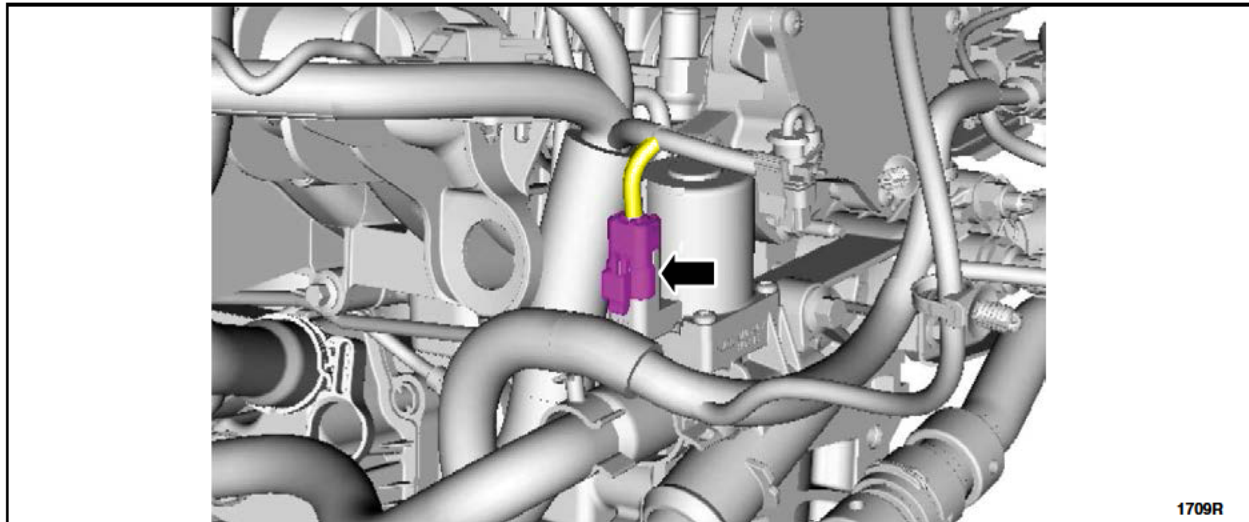

FIGURE H1
2. Disconnect the engine coolant bypass valve electrical connector. See Figure H1.